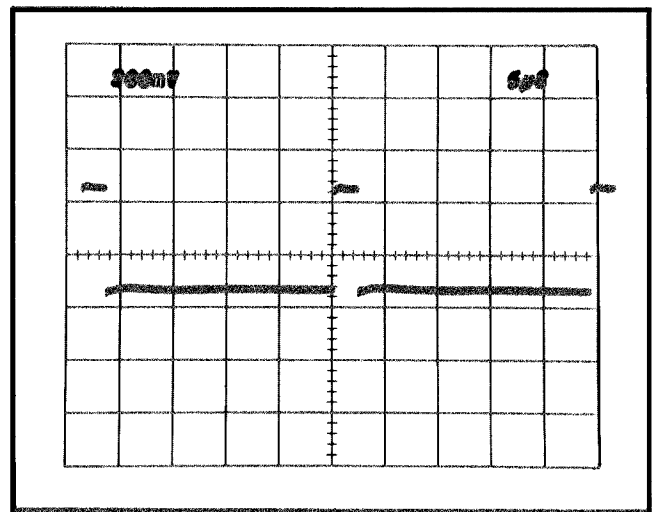

Fig. 5-16. CRT display when checking sweep holdoff time.
c. CHECK—The holdoff time is 3.5 μ s or less (see Fig. 5-16).